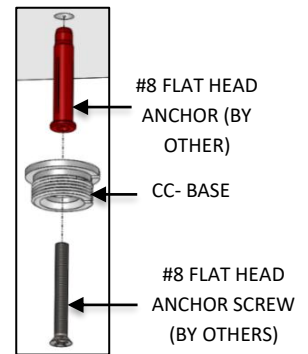

FIG. 8- HARD CEILING
- Install the CC-BASE to the #8 FLAT HEAD ANCHOR (by others) previously installed at the non-powered mounting location and secure with the #8 FLAT HEAD ANCHOR SCREW (by others) as shown in FIG. 8.